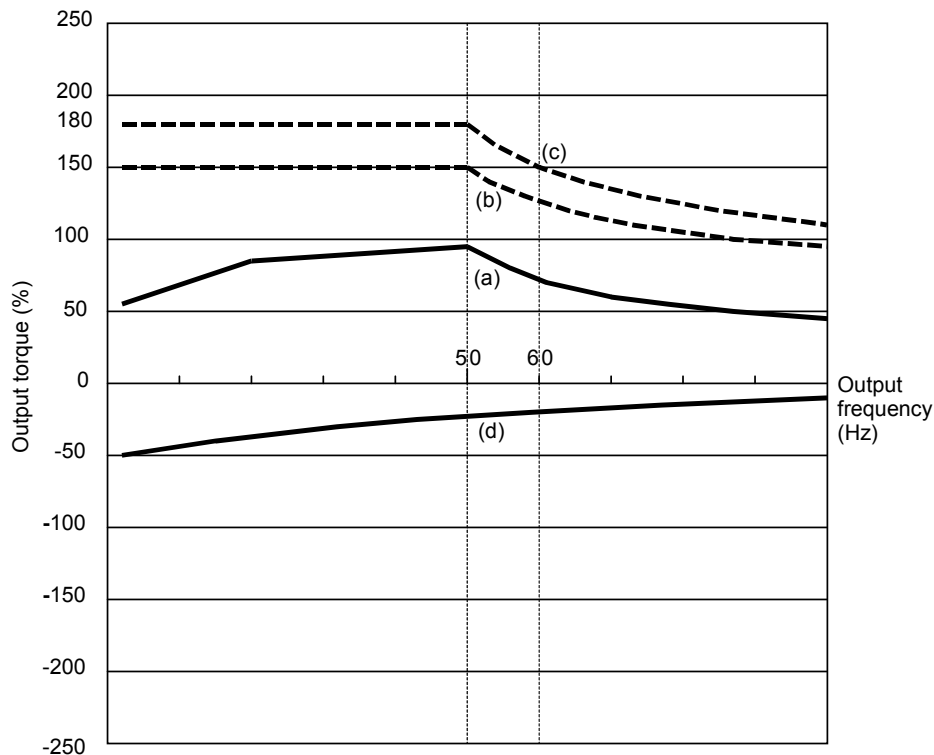

Figure 3.1 Output Torque Characteristics (Base frequency: 50 Hz)
Figures 3.1 and 3.2 graph the output torque characteristics of motors at the rated output frequency individually for 50 Hz and 60 Hz base. The horizontal and vertical axes show the output frequency and output torque (%), respectively. Curves (a) through (d) depend on the running conditions.
(1) Continuous allowable driving torque (Curve (a) in Figures 3.1 and 3.2)
(2) Maximum driving torque in a short time (Curves (b) and (c) in Figures 3.1 and 3.2)
(3) Starting torque (around the output frequency 0 Hz in Figures 3.1 and 3.2)
(4) Braking torque (Curve (d) in Figures 3.1 and 3.2)